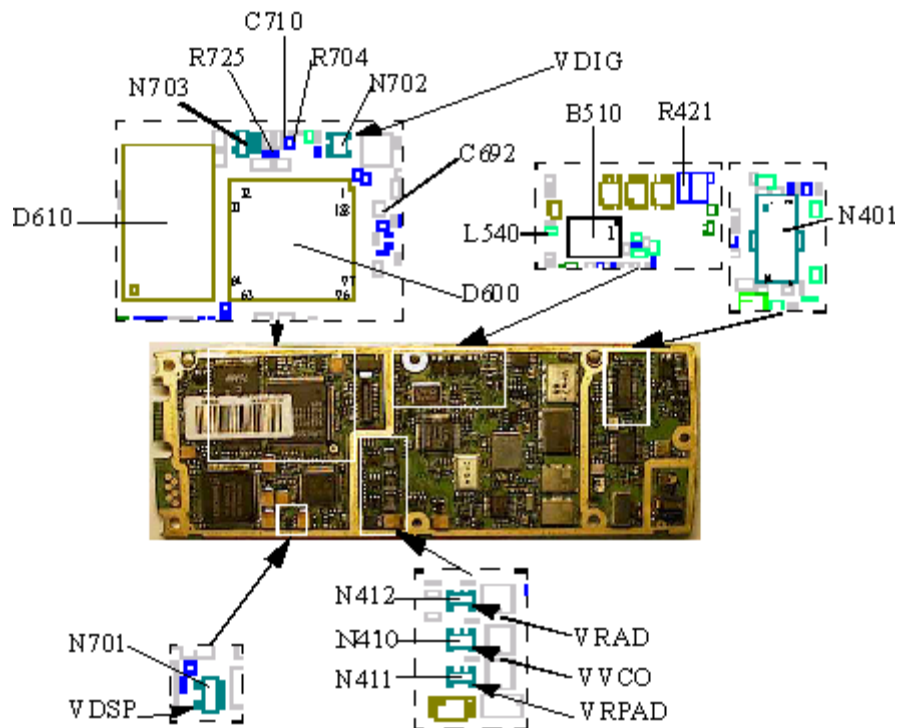
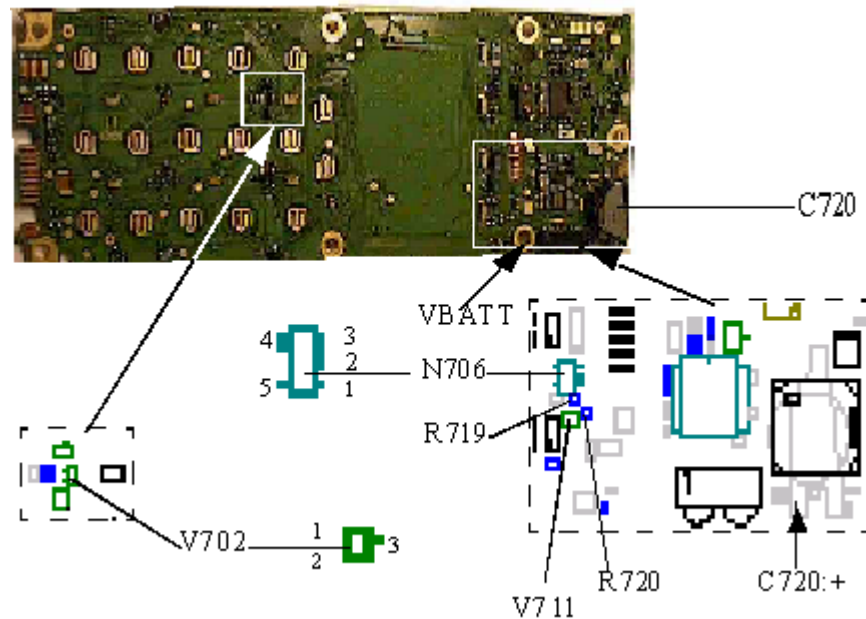
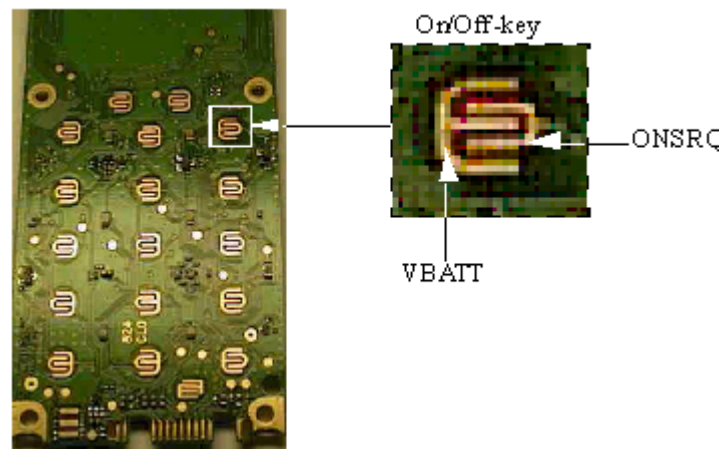

Fig. 3.1
Fig. 3.2
Fig. 3.3
* If it's more than 1.5A or as high as the current limit of the power supply, then N401 (class D1, fig. 3.1) is broken and the phone can't be repaired at this level. Measure the resistance from N401 pin 14 to ground. It should be >10 kohms but if it's approximately 200 ohms it means that N401 is broken.
Open the phone and make a visual check. The component side of the circuit board is shown in fig. 3.1. Check for eventual liquid damages and burnt or damaged pads at the system connector. Check R421 (~0.1 ohms, class B, fig. 3.1) and faulty solderings at D600 and D610 (fig. 3.1).
Also check the manufacturing week of the circuit board. At the boards manufactured in 1998 week 20-22, L540 (class A, fig. 3.1) is to be replaced. At the boards manufactured other dates, check the solderings at L540. As soon as the fault is fixed, send the phone through the normal flow. If the phone starts and the above is ok, it's probably ok or the fault is intermittent.
- * If the phone starts after programming it, then the problem is probably fixed. To eliminate the risk for intermittent faults make sure the circuit board isn't liquid damaged and that the solderings at D600 and D610 (fig. 3.1) are ok. Also check the manufacturing date of the circuit board. L540 (class A, fig. 3.1) is to be replaced at all the circuit boards manufactured in 1998 weeks 20-22. At the boards made in any other week just check the solderings of L540.
Measure the resistance of R421 (0.1 ohms, class B, fig. 3.1).
Check VDIG and VDSP voltages (3.2V, fig. 3.1).
* If the resistance is correct, replace the corresponding circuit, VDIG - N702 (class A), VDSP - N701 (class A, both in fig. 3.1).
Check the powerreset (PWRRST) voltage at C710 (>3V, fig. 3.1).
- If it's lower, check R704 (~0 ohms, class A, fig. 3.1) and R725 (~100 kohms, class A, fig. 3.1).
* If they are ok, first replace C710 and if it doesn't help, replace N703 (both class A and in fig. 3.1).
Measure the voltages at VRAD, VVCO and VRPAD (~3.8V, fig. 3.1).
* If it's correct, replace the corresponding transistor (see fig. 3.1, all of them class A).
Check the amplitude of the 13MHz system clock at B510 pin 1 (~1V t-t, class C, fig. 3.1). Measure it by using an oscilloscope, spectrum analyzer, frequency counter or a diode probe.
Make sure there aren't any faulty solderings at D600 or D610 (fig. 3.1).
Measure the VDIG and VDSP voltages (~3.2V, fig. 3.1).
- * If the resistance is correct, replace the corresponding regulator (VDIG - N702, VDSP - N701, both of class A, fig. 3.1).
Check the power reset (PWRRST) voltage at C710 (fig. 3.1, >3V).
- If it's less, measure the resistance of R704 (~0 ohms, class A, fig. 3.1) and R725 (~100 kohms, class A, fig. 3.1).
- * If they're correct, replace C710 at first and if that doesn't help, N703 (both class A, fig. 3.1) .
Measure the VRAD, VVCO and VRPAD voltages (~3.8V, fig. 3.1).
- * If the resistance is correct, replace the corresponding transistor (see fig. 3.1, all of class A).
Check the VDIG and VDSP voltages (~3.2V, fig. 3.1).
- Measure the VRAD, VVCO and VRPAD voltages (~3.8V, fig. 3.1).
- * If the resistance is correct, replace the corresponding regulator (see fig. 3.1, all of class A).
Measure the voltage at C692 (>3V, fig. 3.1).
- If it's correct, check the soldering at D600 pin 119 (fig. 3.1).
- * If the resistance is correct, measure the input voltage at N706 pin 2 (VBATT, fig. 3.2) and the output voltage at pin 3 (~3.5V). Make sure that there's ground at N706 pin 1.
- * If VBATT and ground are correct but not the output voltage, replace N706 (class A, fig. 3.2).
- * If they're all correct, measure the voltage at the positive side of the backup capacitor, C720 (~3.2V, class A, fig. 3.2).
- * If it's incorrect, measure the resistances of R720 (180 kohms, class A, fig. 3.2) and R719 (47 kohms, class A, fig. 3.2).